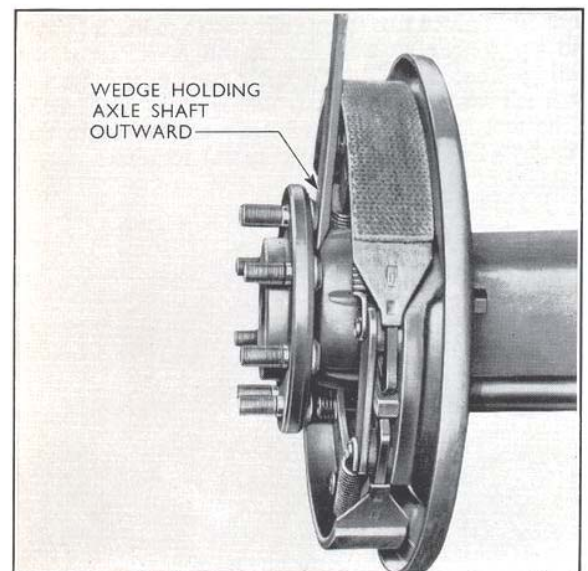

Fig. 12
11. Next pull the shaft firmly outwards and rotate the flange to seat the bearing in its cup and measure the clearance between the end of the bolt and the same point on the retainer (see Fig. 12). This gap, representing the axle shaft end-float should be 0.004 to 0.012 in. (0.10 to 0.30 mm.) and if outside these limits, the axle shaft should be removed and shims added to, or removed from, the retainer studs to increase or decrease the end-float respectively.